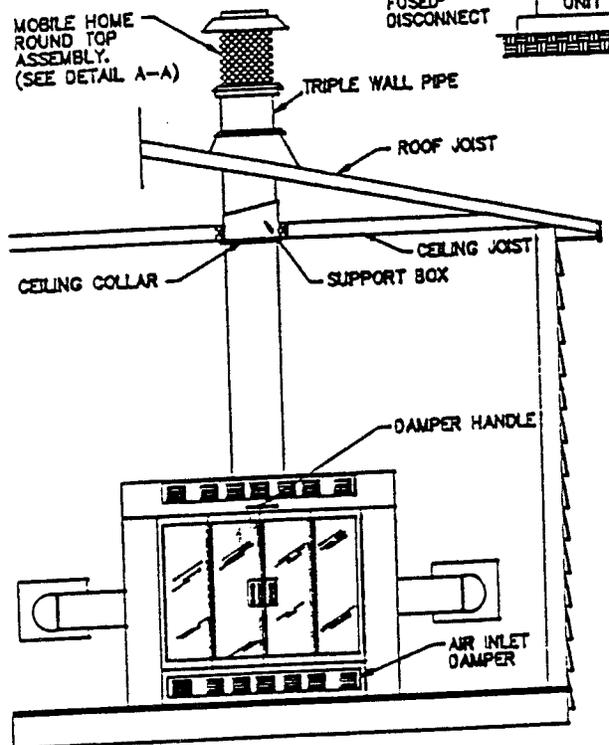

FIGURE 72
1. If your home is equipped with a built-in fireplace, it will be necessary to complete the installation of the round top assembly, rain cap, spark arrestor, and chimney pipe. See Figure 72.